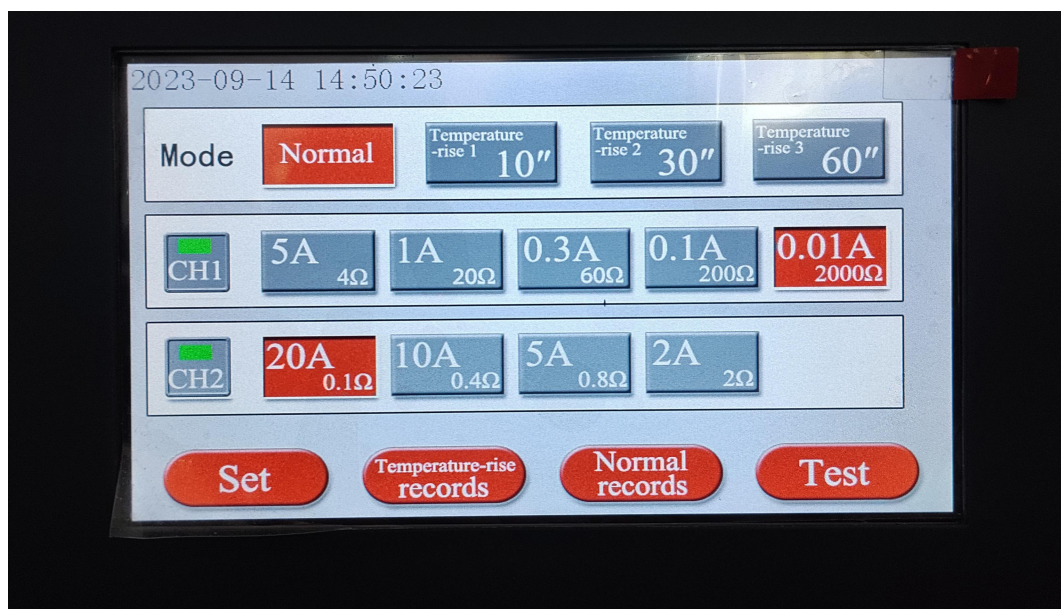
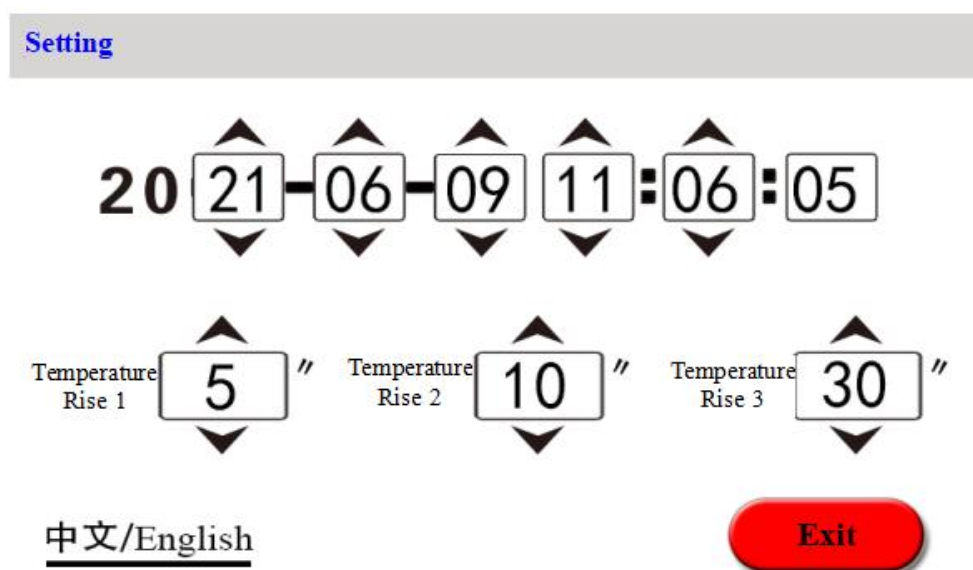
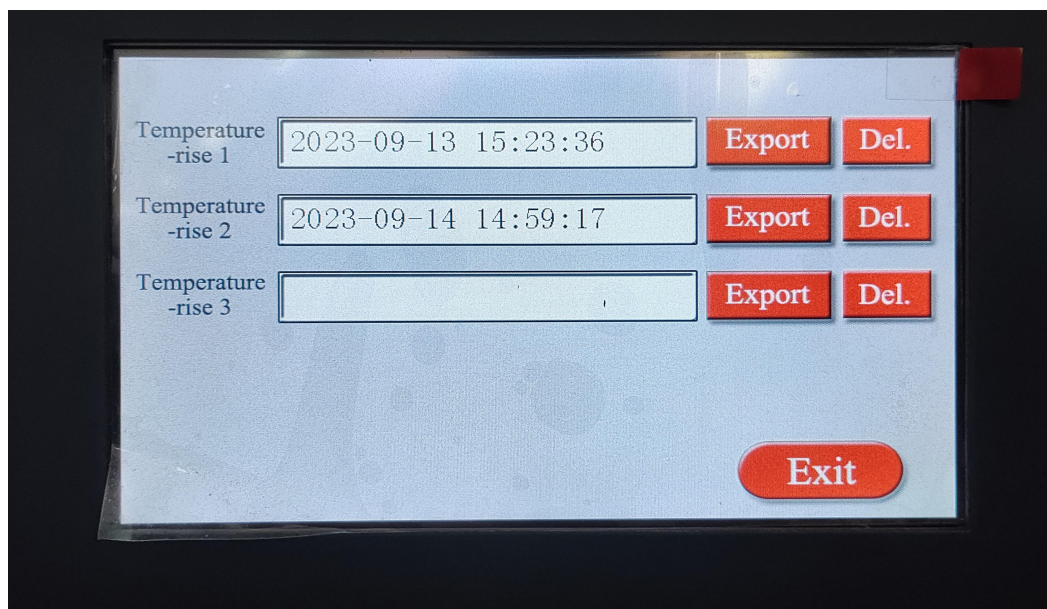
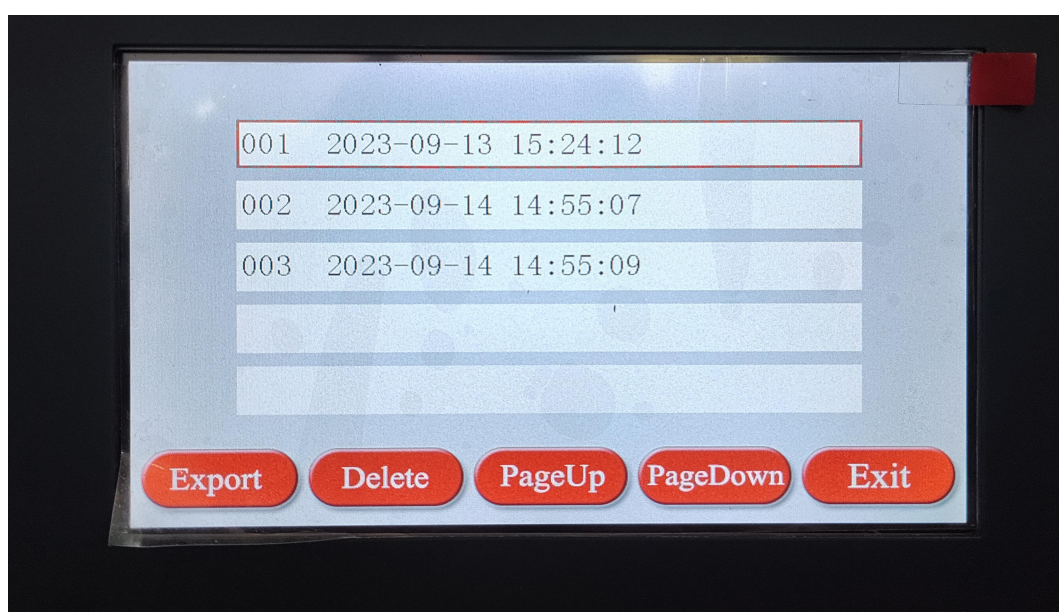

Figure 5 (selection setting interface)
Figure 11 (Time modification interface)
Figure 12 (Temperature rising Records interface)
Figure 13 (Conventional records interface)
2. **Selection setting:** Switch on the power supply switch, the “Kingrun instrument” interface will be displayed on the display screen, then automatically skip to selection setting main interface as figure 5 after approximate 3 seconds.
Mode selection: The interface shown as figure 5 is displayed on the display screen, now carry out selection through touching and controlling the corresponding mode selection phase, the red point is lit after it is selected. Selected temperature rise mode “Testing” key is changed to “Timing” key.
Selection of CH1 channel: The interface shown as figure 5 is displayed on the display
Selection of CH2 channel: The interface shown as figure 5 is displayed on the display screen. Now select the CH2 channel or close the CH2 channel through touching and controlling the corresponding CH2 push button. Select the CH2 channel, the indication lamp is lit green, now corresponding current phase selection is selected and lit on. The indication lamp for closing CH2 channel is black, now corresponding current phase selection is closed completely. The CH2 channel is prohibited to use.
Current selection: The interface shown as figure 5 is displayed on the display screen, now select output current of the tested product through touching and controlling. Please refer to corresponding measurement scope to select suitable current. Resistance value following current value is maximum measurement resistance of selected current shift.
"Exit" function key, Touch the "Exit" key, conventional testing will be complete. The instrument outputs current and disconnects with the winding, and it will be discharged at same time, and sound alarm is displayed as figure ten. After discharging is complete, the display screen returns back to selection setting interface (figure 5), and connect the wires again. Carry out next measurement or remove the testing wire and the power supply wire, measurement is complete.
Touch and control the "Setting" function key on the interface shown in figure 5, and enter into time input interface shown in figure 11.
Modify time or Temperature rising timing interval at corresponding position according to corresponding upward and downward arrows. After modification is complete, touch the "Exit" function key, and return back to initial status shown as figure 5. The system will run as modified time.
Touch the "Temp Rising Record" function key on the interface shown in figure 5, and review the temperature rising record interface as shown in figure 12.
Temperature rise data can be saved 3 sets. Touch the catalogue time to review corresponding data. Touch page up and page down keys to review, touch and control the "Exit" key and return back to figure 12 to select review interface.
Touch the **Exit** function key and return back to the setting interface shown as figure 5.
Touch the "**Conventional Record**" function key under the interface shown in Figure 5 to review temperature rise directory as shown in Figure 13. 100 sets of regular data are saved. Touch the directory time, the record will be selected in the red box. Touch again to view the corresponding data. When a record is selected in the red box, touch the "**DEL**" function key, and this data will be deleted.
The touch "**Exit**" function key returns to the settings interface as shown in Figure 5.